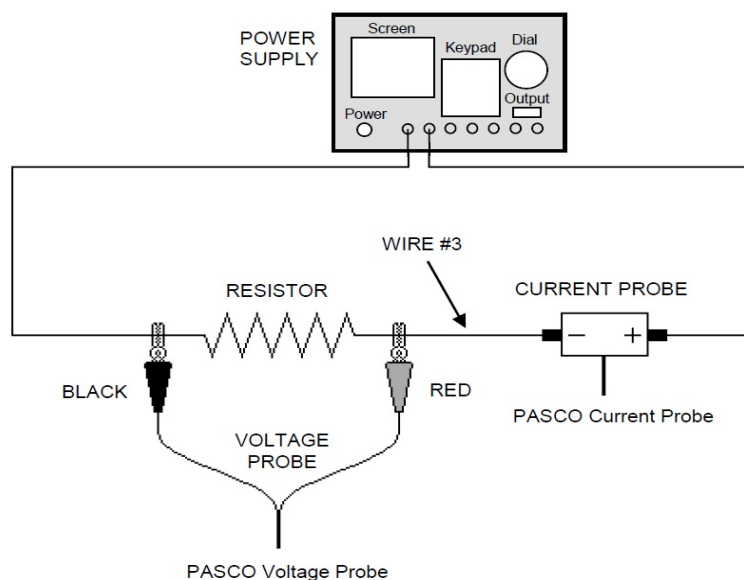

Figure 1: Circuit Diagram
1. Setup the circuit shown in Figure 1 using the brown or red-violet-brown-gold band resistor. The gold band on the resistor means it is accurate to within 5%. Find the value of the resistor by using a resistor chart which is posted on one of the walls in your lab.